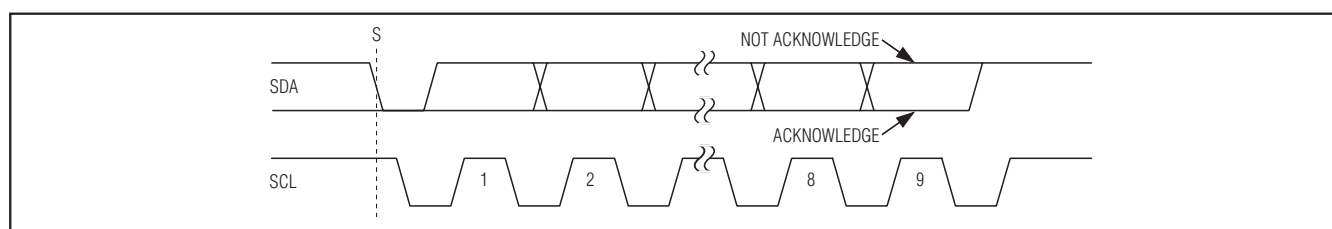

Figure 8. Acknowledge Bits
Successful data transfers are acknowledged with an acknowledge bit (A) or a not-acknowledge bit ( $\bar{A}$ ). Both the master and the MAX1169 (slave) generate acknowledge bits. To generate an acknowledge, the receiving device must pull SDA low before the rising edge of the acknowledge-related clock pulse (ninth pulse) and keep it low during the high period of the clock pulse (Figure 8). To generate a not acknowledge, the receiver allows SDA to be pulled high before the rising edge of the acknowledge-related clock pulse and leaves it high during the high period of the clock pulse.